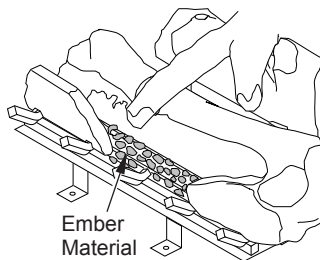

Figure 45 - Placing Ember Material on Burner
7. Pull ember material apart into pieces no larger than a dime. Place these pieces loosely and sparingly directly onto the exposed section of the front burner and along the space between the burner and grate prongs (see Figure 45). This will create the glowing ember appearance as the flame touches the ember material. Do not block air slots by using too much ember material in one area. It is not necessary to use all of the ember material provided.